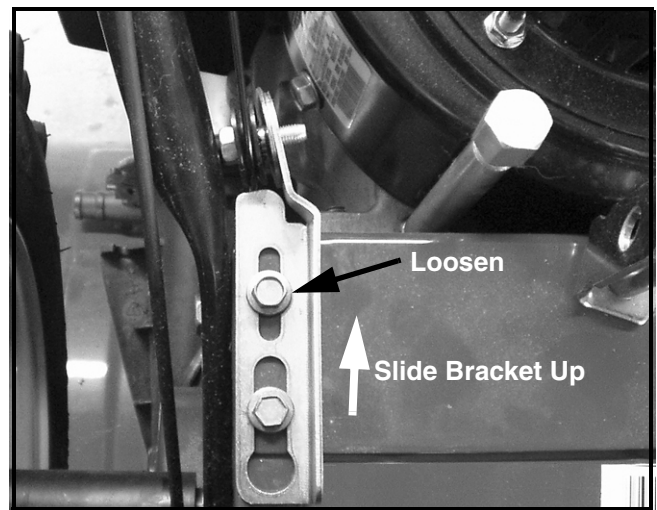

FIGURE 4
10. Refer to Figure 4. Using a 3/8" socket and ratchet, loosen the top screw securing the auger clutch cable guide bracket. Slide the bracket up to loosen the clutch cable.
33. Ensure the auger clutch cable is correctly routed. Reconnect the auger clutch cable's "Z" fitting to the auger clutch lever. Slide the auger clutch cable guide bracket down to remove slack so that the cable is just slightly taut with the clutch lever in the disengaged position and tighten the upper screw. Refer to Figure 4.